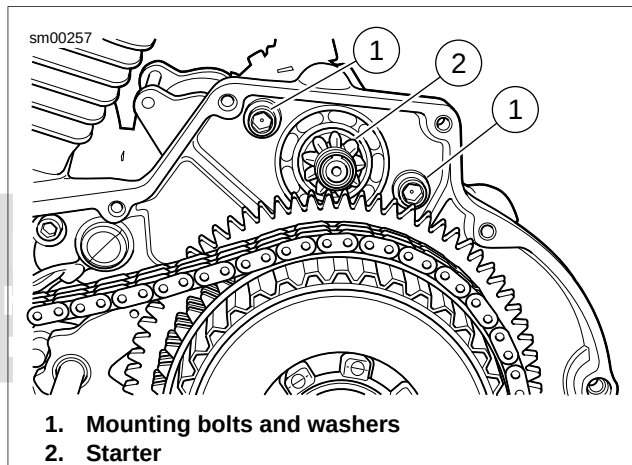

Figure 5-15. Starter Mounting
2. See Figure 5-15. Install both starter mounting bolts and washers. Tighten to 13-20 ft-lbs (18-27 Nm).